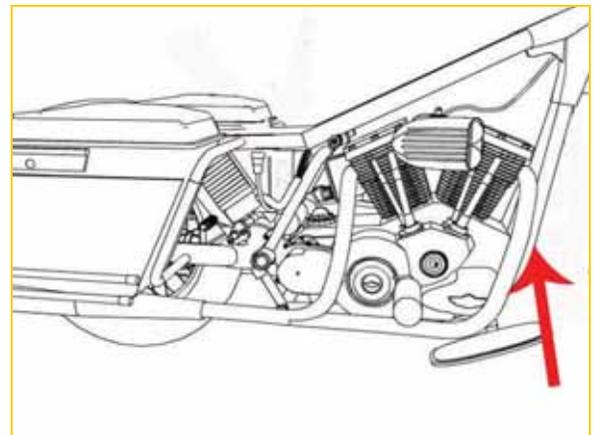

Fig 3
6. The front factory O2 connector is located in between the front down tubes of the frame just behind the front tire TOURING figure 3. The front TFI O2 harness (long harness with pink/tan wires) will run along the left side of the frame down to the front factory O2 connector.